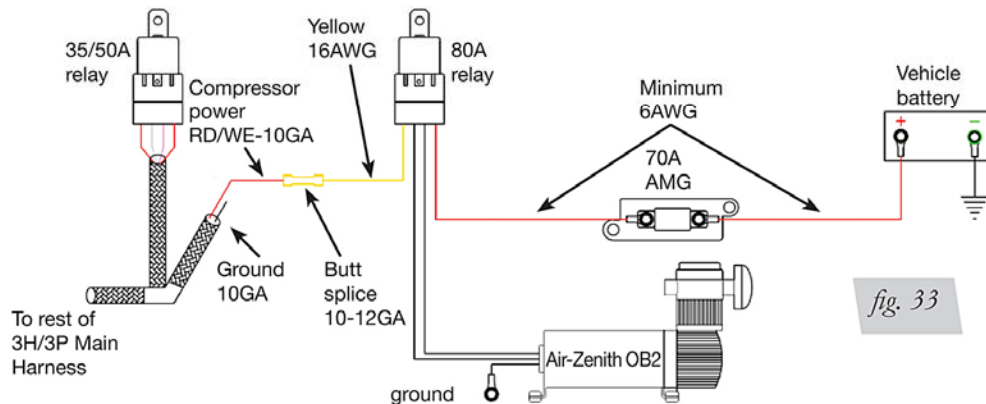

fig. 33
3. If using an Air-Zenith OB2 compressor, follow the wiring diagram below (fig. 33). The 70A fuse, relay, etc. are supplied with compressor. Wiring requirements for the compressor should follow manufacturer's recommendation.